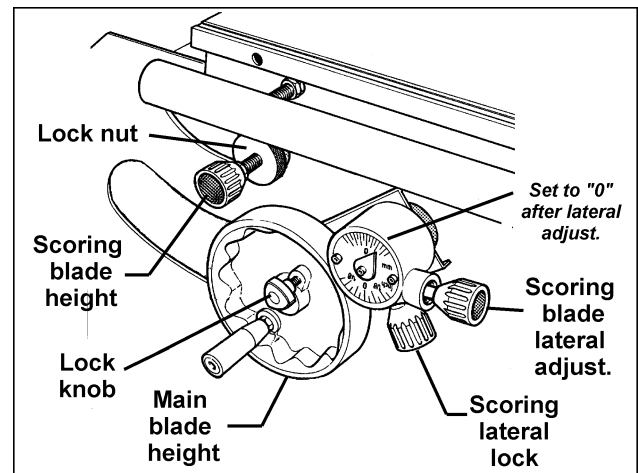

FIGURE 19
The controls for blade setting are shown in Figures 19 and 20.
1. Adjust the height of the main blade with the handwheel on the side of the machine (Fig. 19). One turn of the handwheel raises or lowers the blade by $\frac{3}{16}$ ".
(Figure 19 & 20)